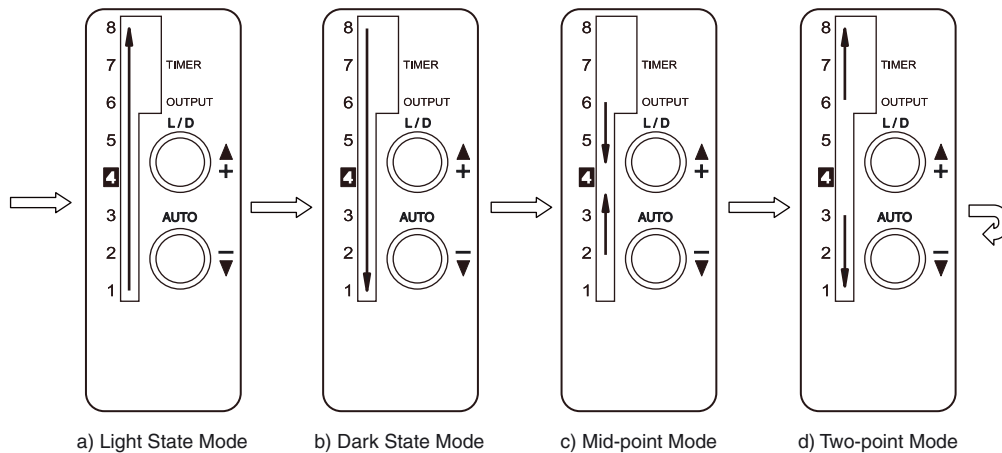

Figure 1. LED flashing sequence for automatic teach modes
- 2) While pressing the AUTO button, repeatedly press the "+" button to scroll through the four possible automatic teach modes. The direction of the flashing contrast indicator LEDs (numbered 1 through 8) indicates the current automatic teach mode (see Figure 1). When the desired mode is indicated, release the AUTO button. Descriptions of the four automatic teach modes are below.